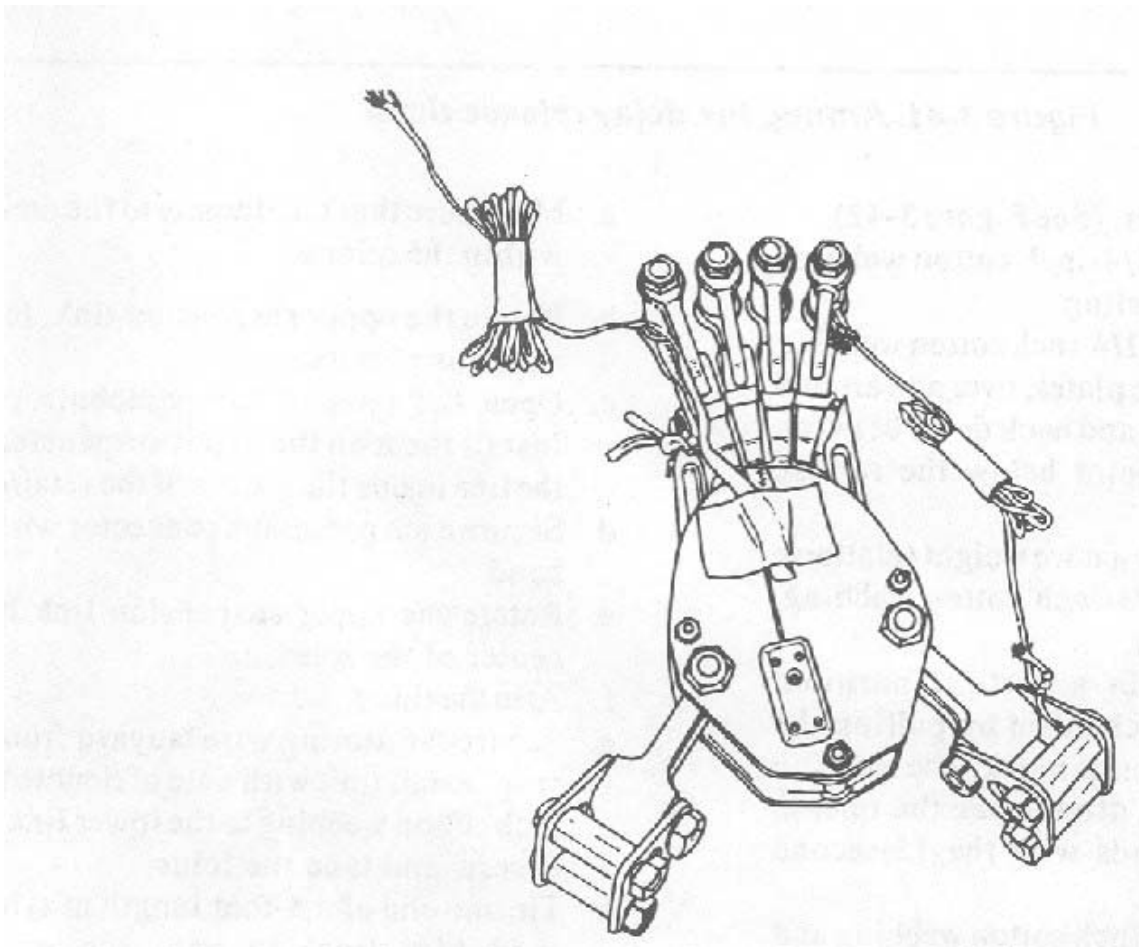

Figure 3-43
9. Prepare the tested release. (See Figures 3-43 and 3-44)